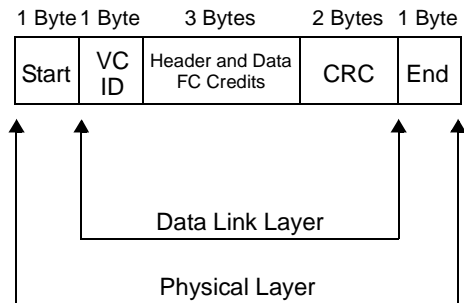

Figure 4. Flow Control Data Link Layer Packet
PCI Express utilizes credit-based flow control to guarantee that transmitters never send TLPs that the receiver cannot accept and which would otherwise result in buffer overruns and retries. The receiver reports the size of its receive buffers in flow control (FC) credits via FC DLLPs to the device on the opposite end of the link. The receiving port continually updates the transmitting port by sending FC DLLPs so that the transmitter only sends packets if the receiver has enough buffer space. The transmitter also keeps track of the number of credits available and decrements this counter each time a packet is sent. After the receiver processes the packet, it frees buffer space and sends an FC Update DLLP to notify the transmitter about available credits. The FC DLLP is also 8 bytes in length as shown in Figure 4.